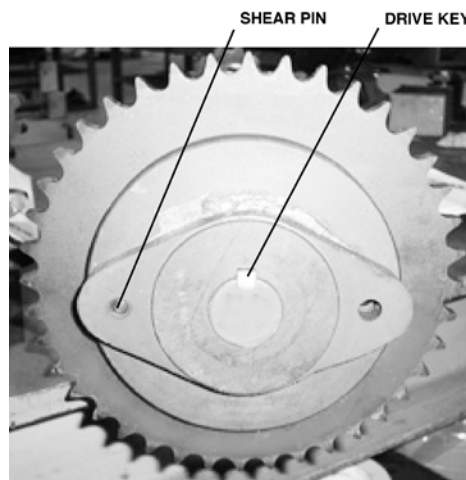

Figure 13: Driven Sprocket Shear Pin and Drive Key
- B. If the driven sprocket turns but the headshaft does not, check the drive key to ensure that it is not sheared (Figure 13). If the key is not sheared, see “Replacement of Headshaft Shear Pin.”